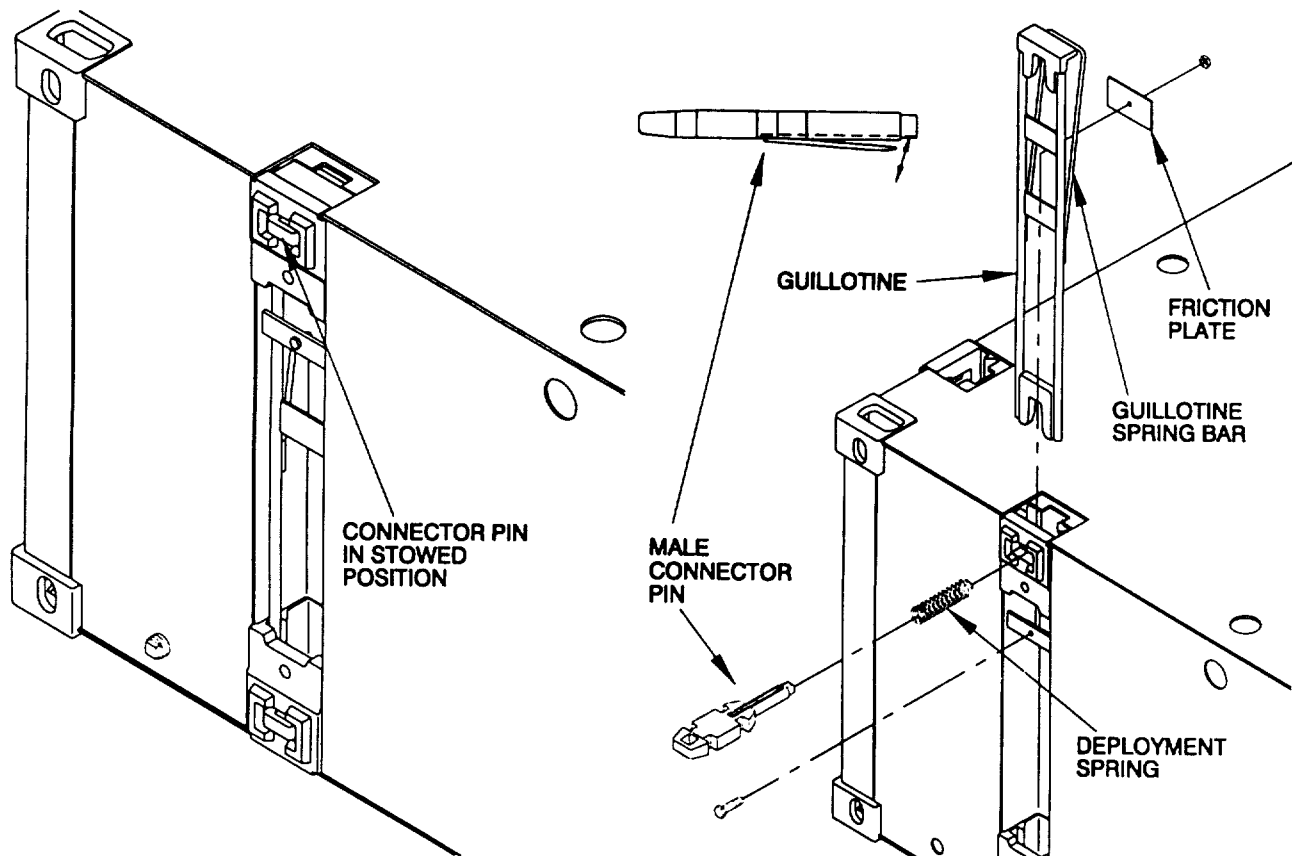

Figure 2-29. Male Connector Assembly (Connector Pin in Stowed Position).
**2-7.2 Male Connector Assembly.** The Male Connector Assembly (Figure 2-29) is made of a retractable connector pin designed to be flush with the surface in the stowed position. The male connector assembly consists of the following components.
Figure 2-29 shows the male connector pin in the stowed position, notice the two protruding tapered shear lugs around the pin housing. In the retracted position, the pin is compressed against the deployment spring and is held in place by the guillotine bar.